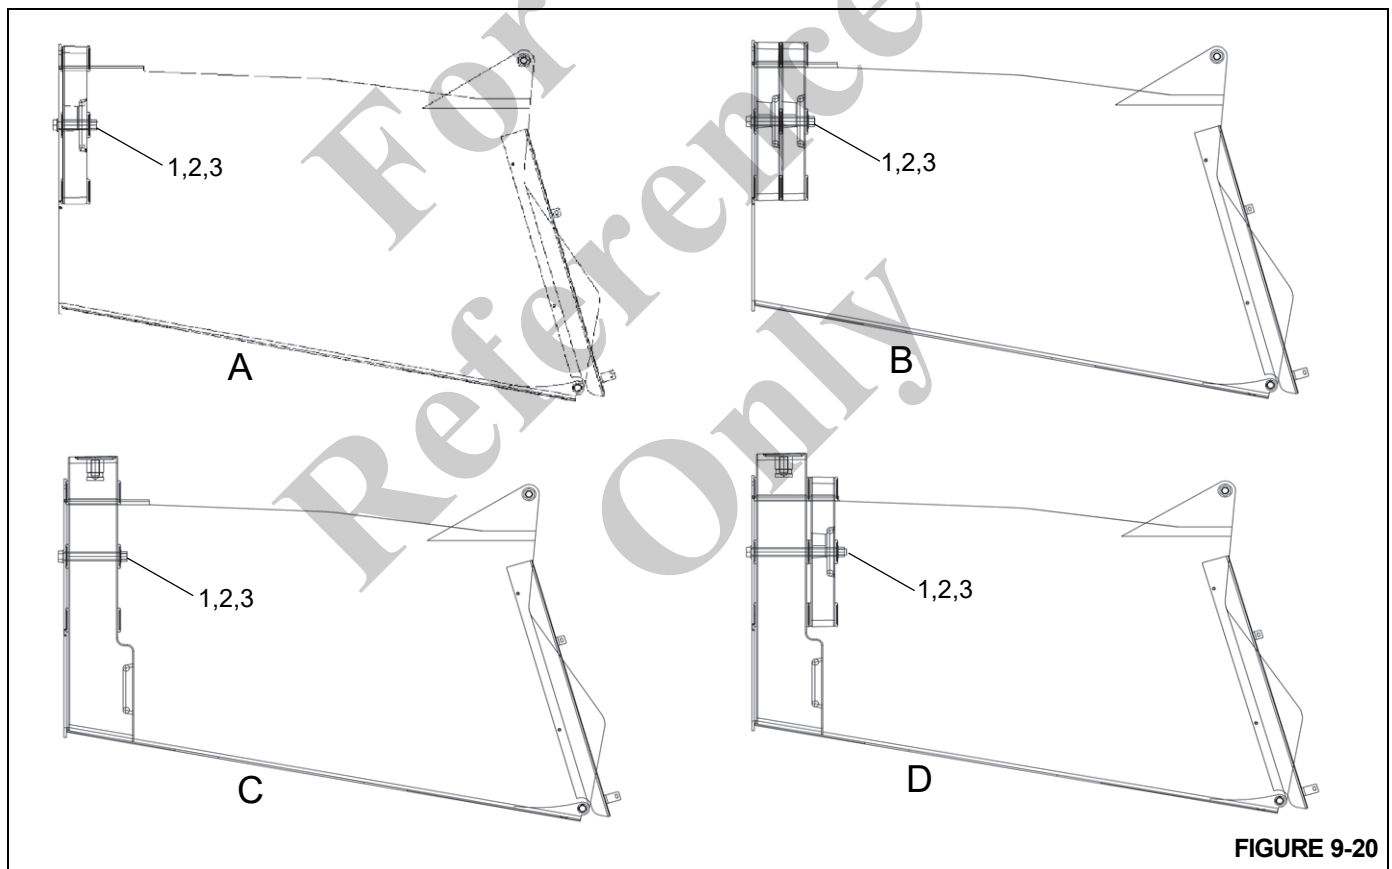

FIGURE 9-20
Each NBT40 and NBT45 model crane is equipped with a different removable counterweight combination. See Figure 9-20 and the following counterweight table for the proper crane counterweight combination.
Use only the counterweight plate combinations as shown in the following counterweight table and Figure 9-20.
Serious injury or death may occur if lifting weight above the crane rated capacity or using a weight combination not shown in the counterweight table and Figure 9-20.
4. Remove the two bolts (1, Figure 9-20), lockwashers (2) nuts (3) securing the counterweight to the crane support weldment. Lift and remove the counterweight from crane.
4. With the lifting device still attached, align the two counterweight and crane support weldment holes and install two bolts (1, Figure 9-20), lockwashers (2), nuts (3).